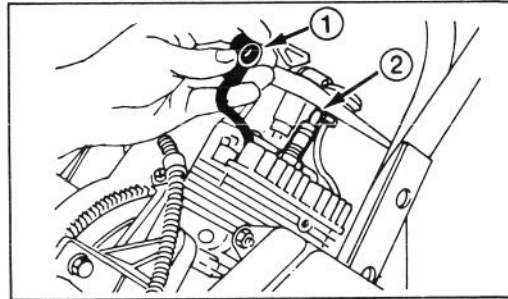

Fig. 12
2. **REMOVE SPARK PLUG (Fig. 12)** — Pull high tension wire off spark plug and remove plug. Examine the plug and replace if cracked, fouled or dirty. **DO NOT SANDBLAST, SCRAPE OR CLEAN SPARK PLUG BECAUSE DIRT MAY RELEASE AND FALL INTO CYLINDER CAUSING ENGINE DAMAGE.**